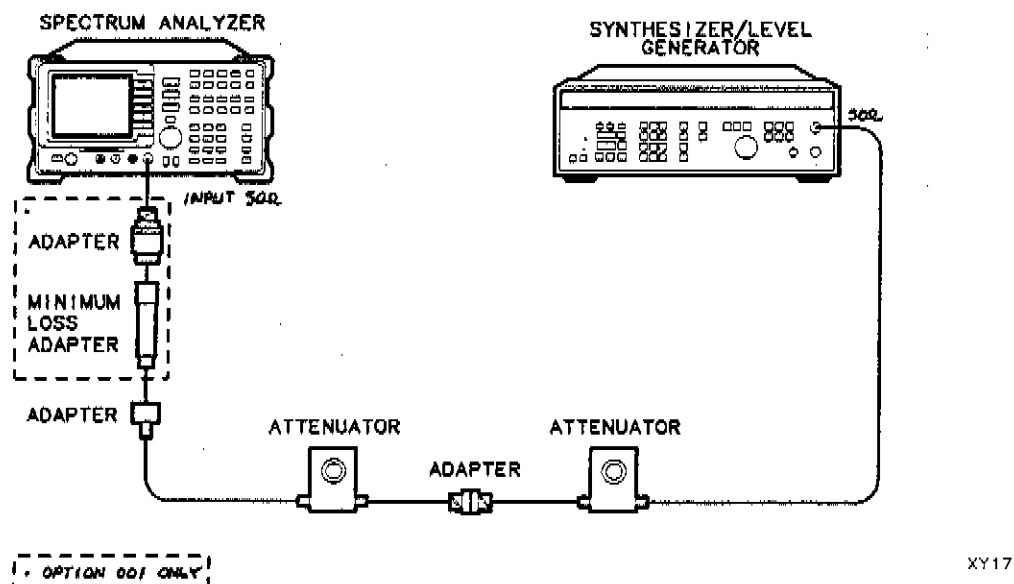

Figure 1-8. Scale Fidelity Test Setup
2. Connect the equipment as shown in Figure 1-8. Set the 10 dB step attenuator to 10 dB attenuation and the 1 dB step attenuator to 0 dB attenuation.